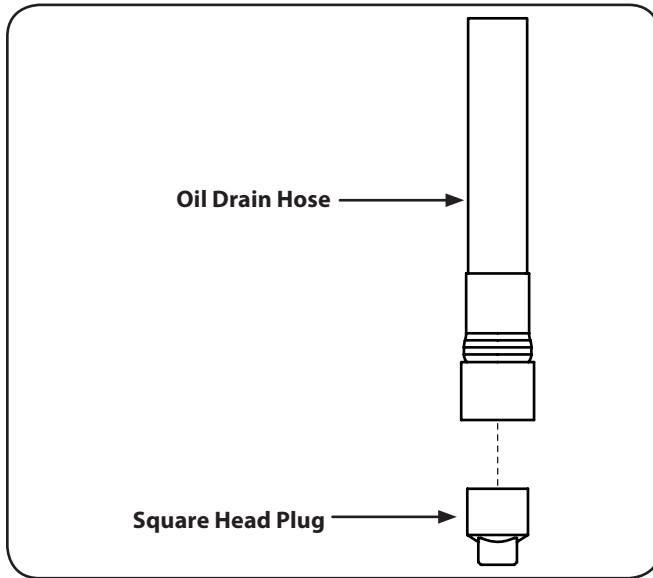

Figure 6-1
- While holding the free end of the oil drain hose over the oil collection container, unscrew the square head hose plug from the end of the hose. See Figure 6-1. Drain the engine oil into the collection container.